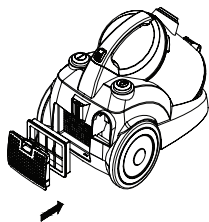

Figure 12
2. Open the exhaust-filter cover by pulling on the lip on the cover. Remove the exhaust filter from the appliance, see figure 12.